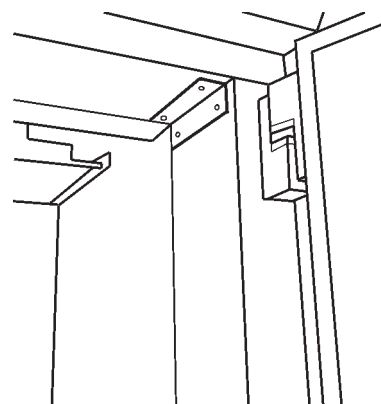

Fig. 4a Door angle
9. Install the angle irons to the upper part of the door opening (fig 4a).